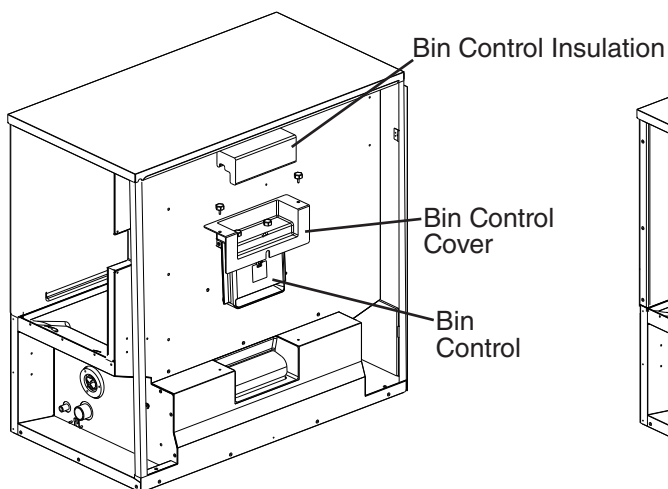

Fig. 6
- 2) Remove the bin control insulation and bin control cover. See Fig. 6.